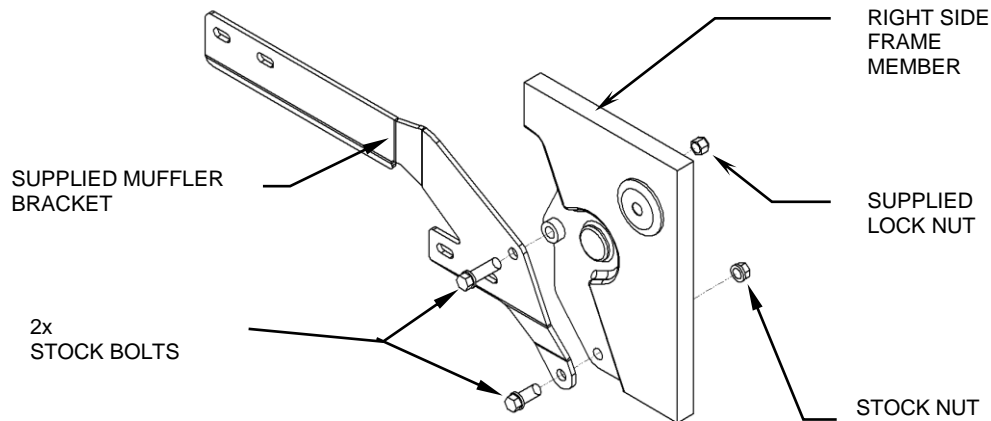

FIGURE 1
4. Remove the exhaust-mounting bracket from the box and mount it to the motorcycle frame using the stock bolts, nut and supplied lock nut but **DO NOT TIGHTEN** at this time. (See Figure 1)